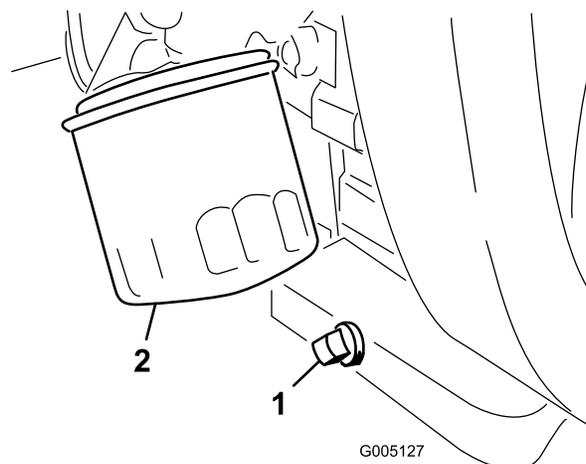

Figure 27
1. Remove the drain plug (Figure 27) and let the oil flow into a drain pan.
- Clean the threads of the drain plug, apply PTFE sealant, and install the drain plug (Figure 27).
- Remove the oil filter (Figure 27).